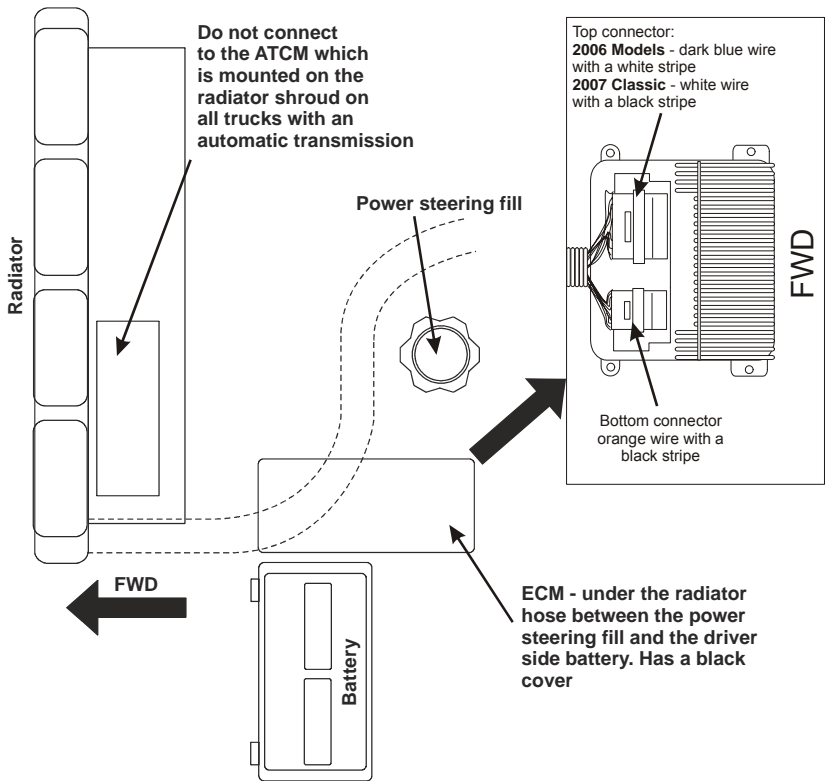

Figure 1
- If the truck has an automatic transmission, locate the ECM (Figure 1) and find the two wires that are orange with a black stripe in the bottom connector. Use a digital voltmeter (**DO NOT USE A TEST LIGHT**) to determine which wire has 0 Volts in Park/Neutral and 12 Volts in all other gear selector positions with the ignition on. Mark the wire with a piece of tape and turn the ignition off.